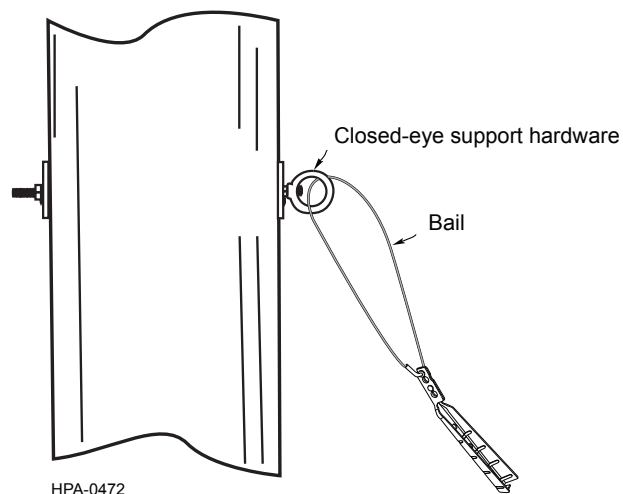

Figure 4
Step 2: If the pole hardware has a closed eye as seen in Figure 4, skip to Step 3.
Step 4: Once the free-end of the bail is threaded through the closed-eye hardware, reverse the operations in Step 3 to re-secure the bail (Figure 4).